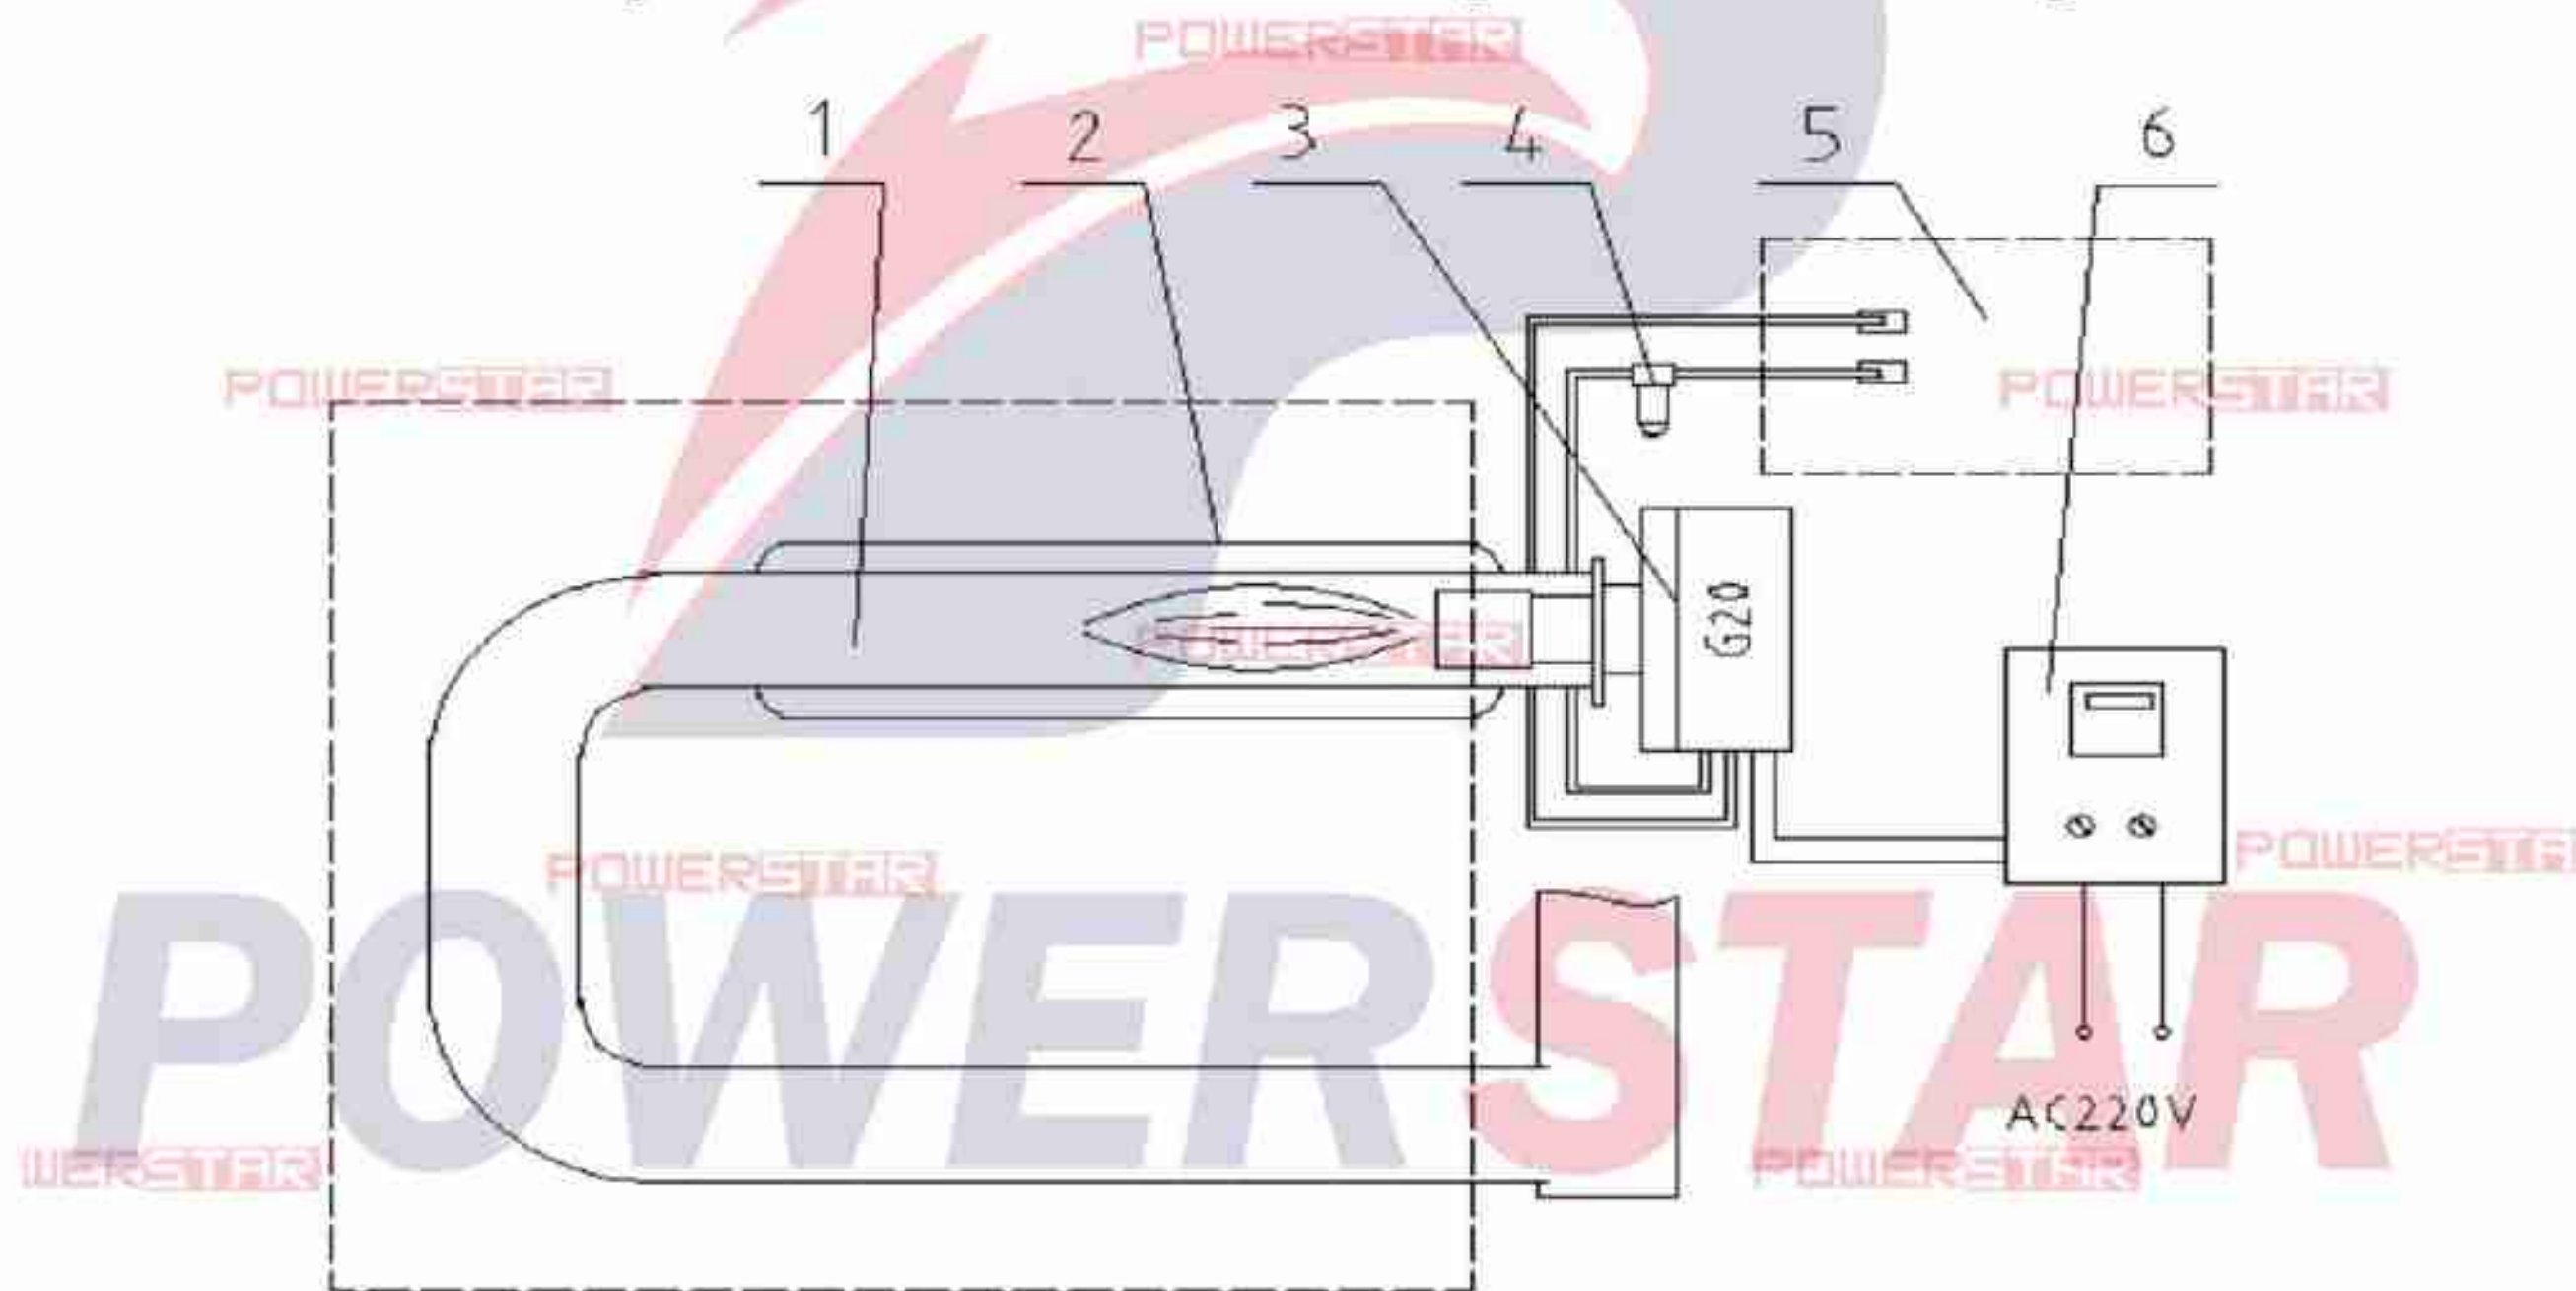

Fig. 4 Asphalt heating system
1. The combustion heating system (as shown in Fig. 4) consists of U-shape combustion chamber, heat transfer oil heating chamber, fuel tank (i.e. main fuel tank of the truck), burner, and temperature control box. The diesel from the main fuel tank of the truck reaches the burner through the filter, is